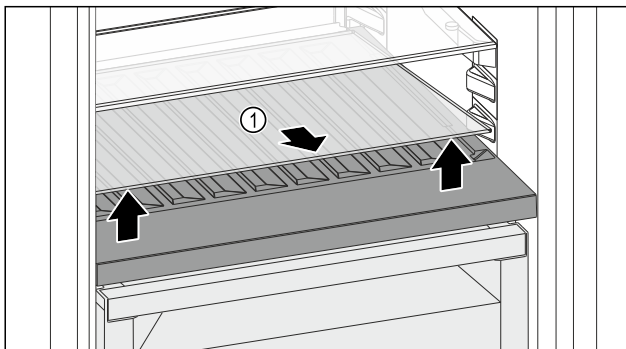

Fig. 113
- ▶ Lift the glass shelf Fig. 113 (1) at the front and remove.
- ▶ Store the glass shelf Fig. 113 (1) in a safe place outside the appliance.